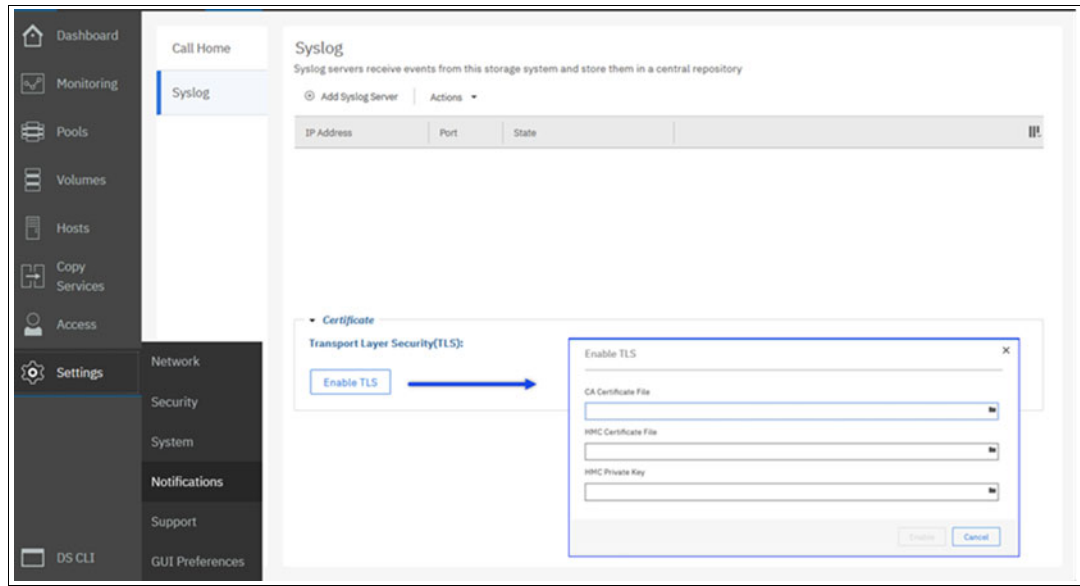

Figure 9-28 Enable TLS window
Note: A DS8A00 server must use TLS for its communications with the Syslog server. To configure TLS, the customer must generate their own trusted certificate for the DS8A00 Syslog process with the CA and import the trusted CA file, signed machine (in this case the HMC and Syslog process) Syslog server certificate file, and key file, as shown in Figure 9-28.
The files that are entered into the fields that are shown in Figure 9-28 are:
3. To enable TLS, in the Certificates area, click **Enable TLS**, as shown in Figure 9-28 on page 249.